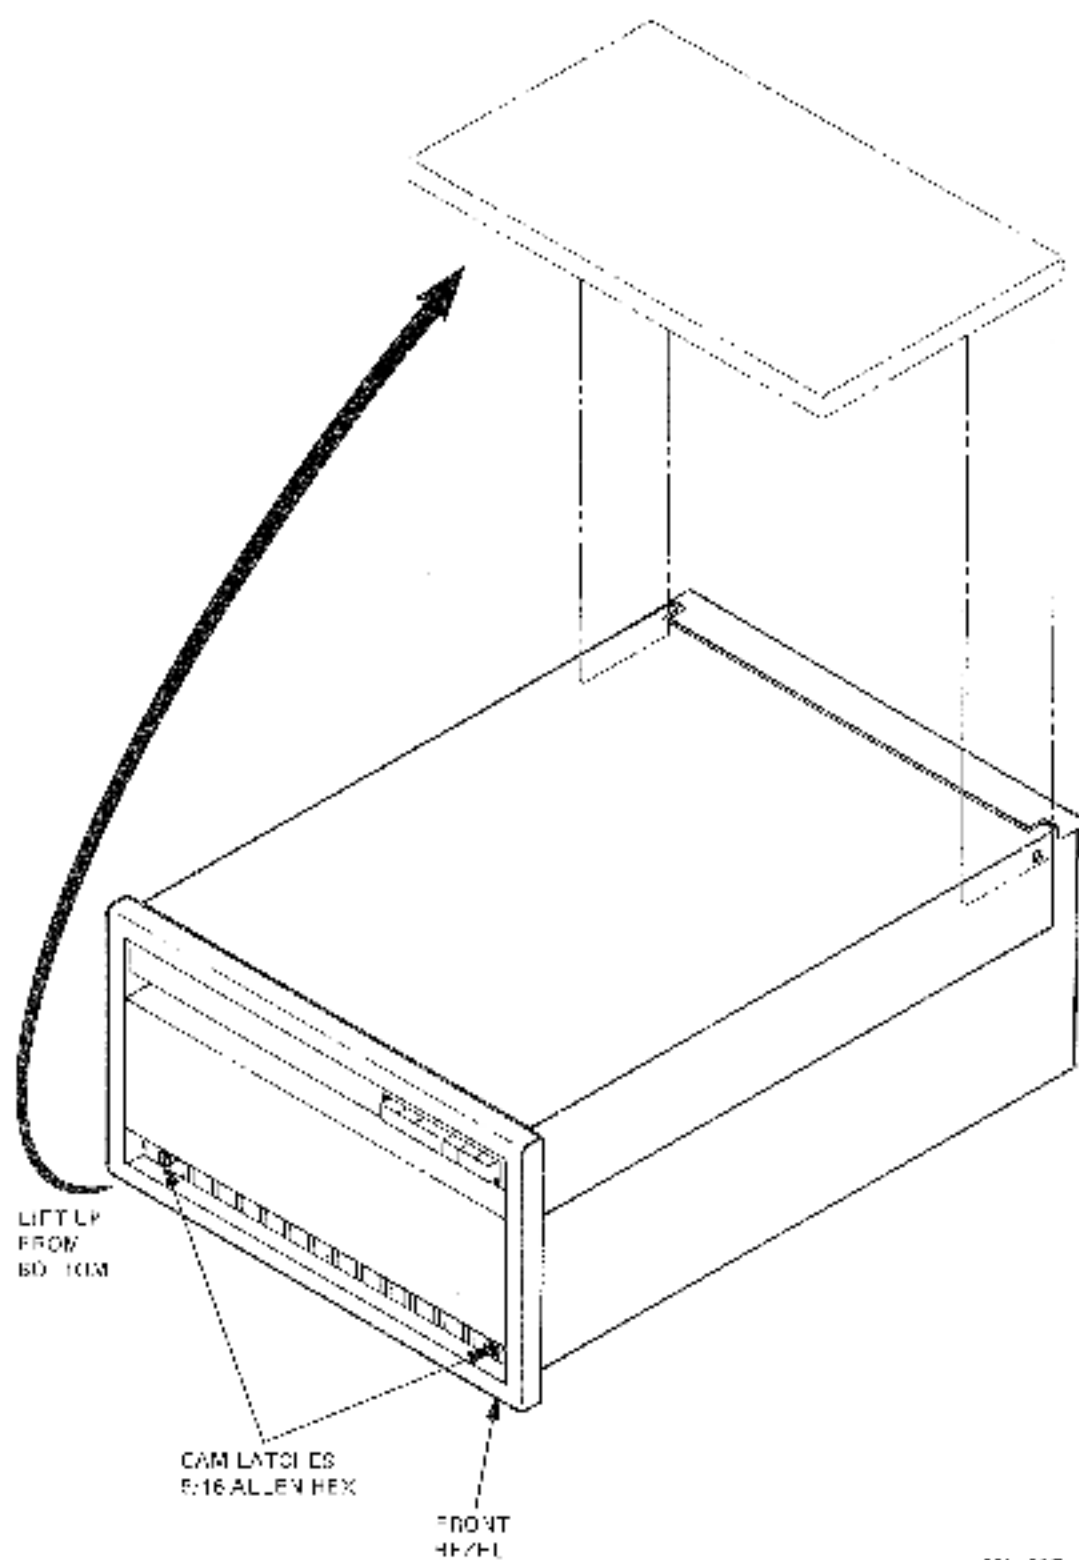

Figure 3-9 Upper Chassis Assembly
1. Unlock the upper chassis assembly by turning the two cam latches under the front bezel 180 degrees counterclockwise with a 5/16-inch allen hex wrench. Refer to Figure 3-9.
16. Slowly lower the upper chassis assembly until resistance from the gas spring is felt. When resistance is sufficient to ensure the gas spring will allow the logic to close slowly, release your hold on the upper chassis assembly. Lock in place by turning the two cam latches under the front bezel 180 degrees clockwise with a 5/16-inch allen hex wrench. Refer to Figure 3-9.